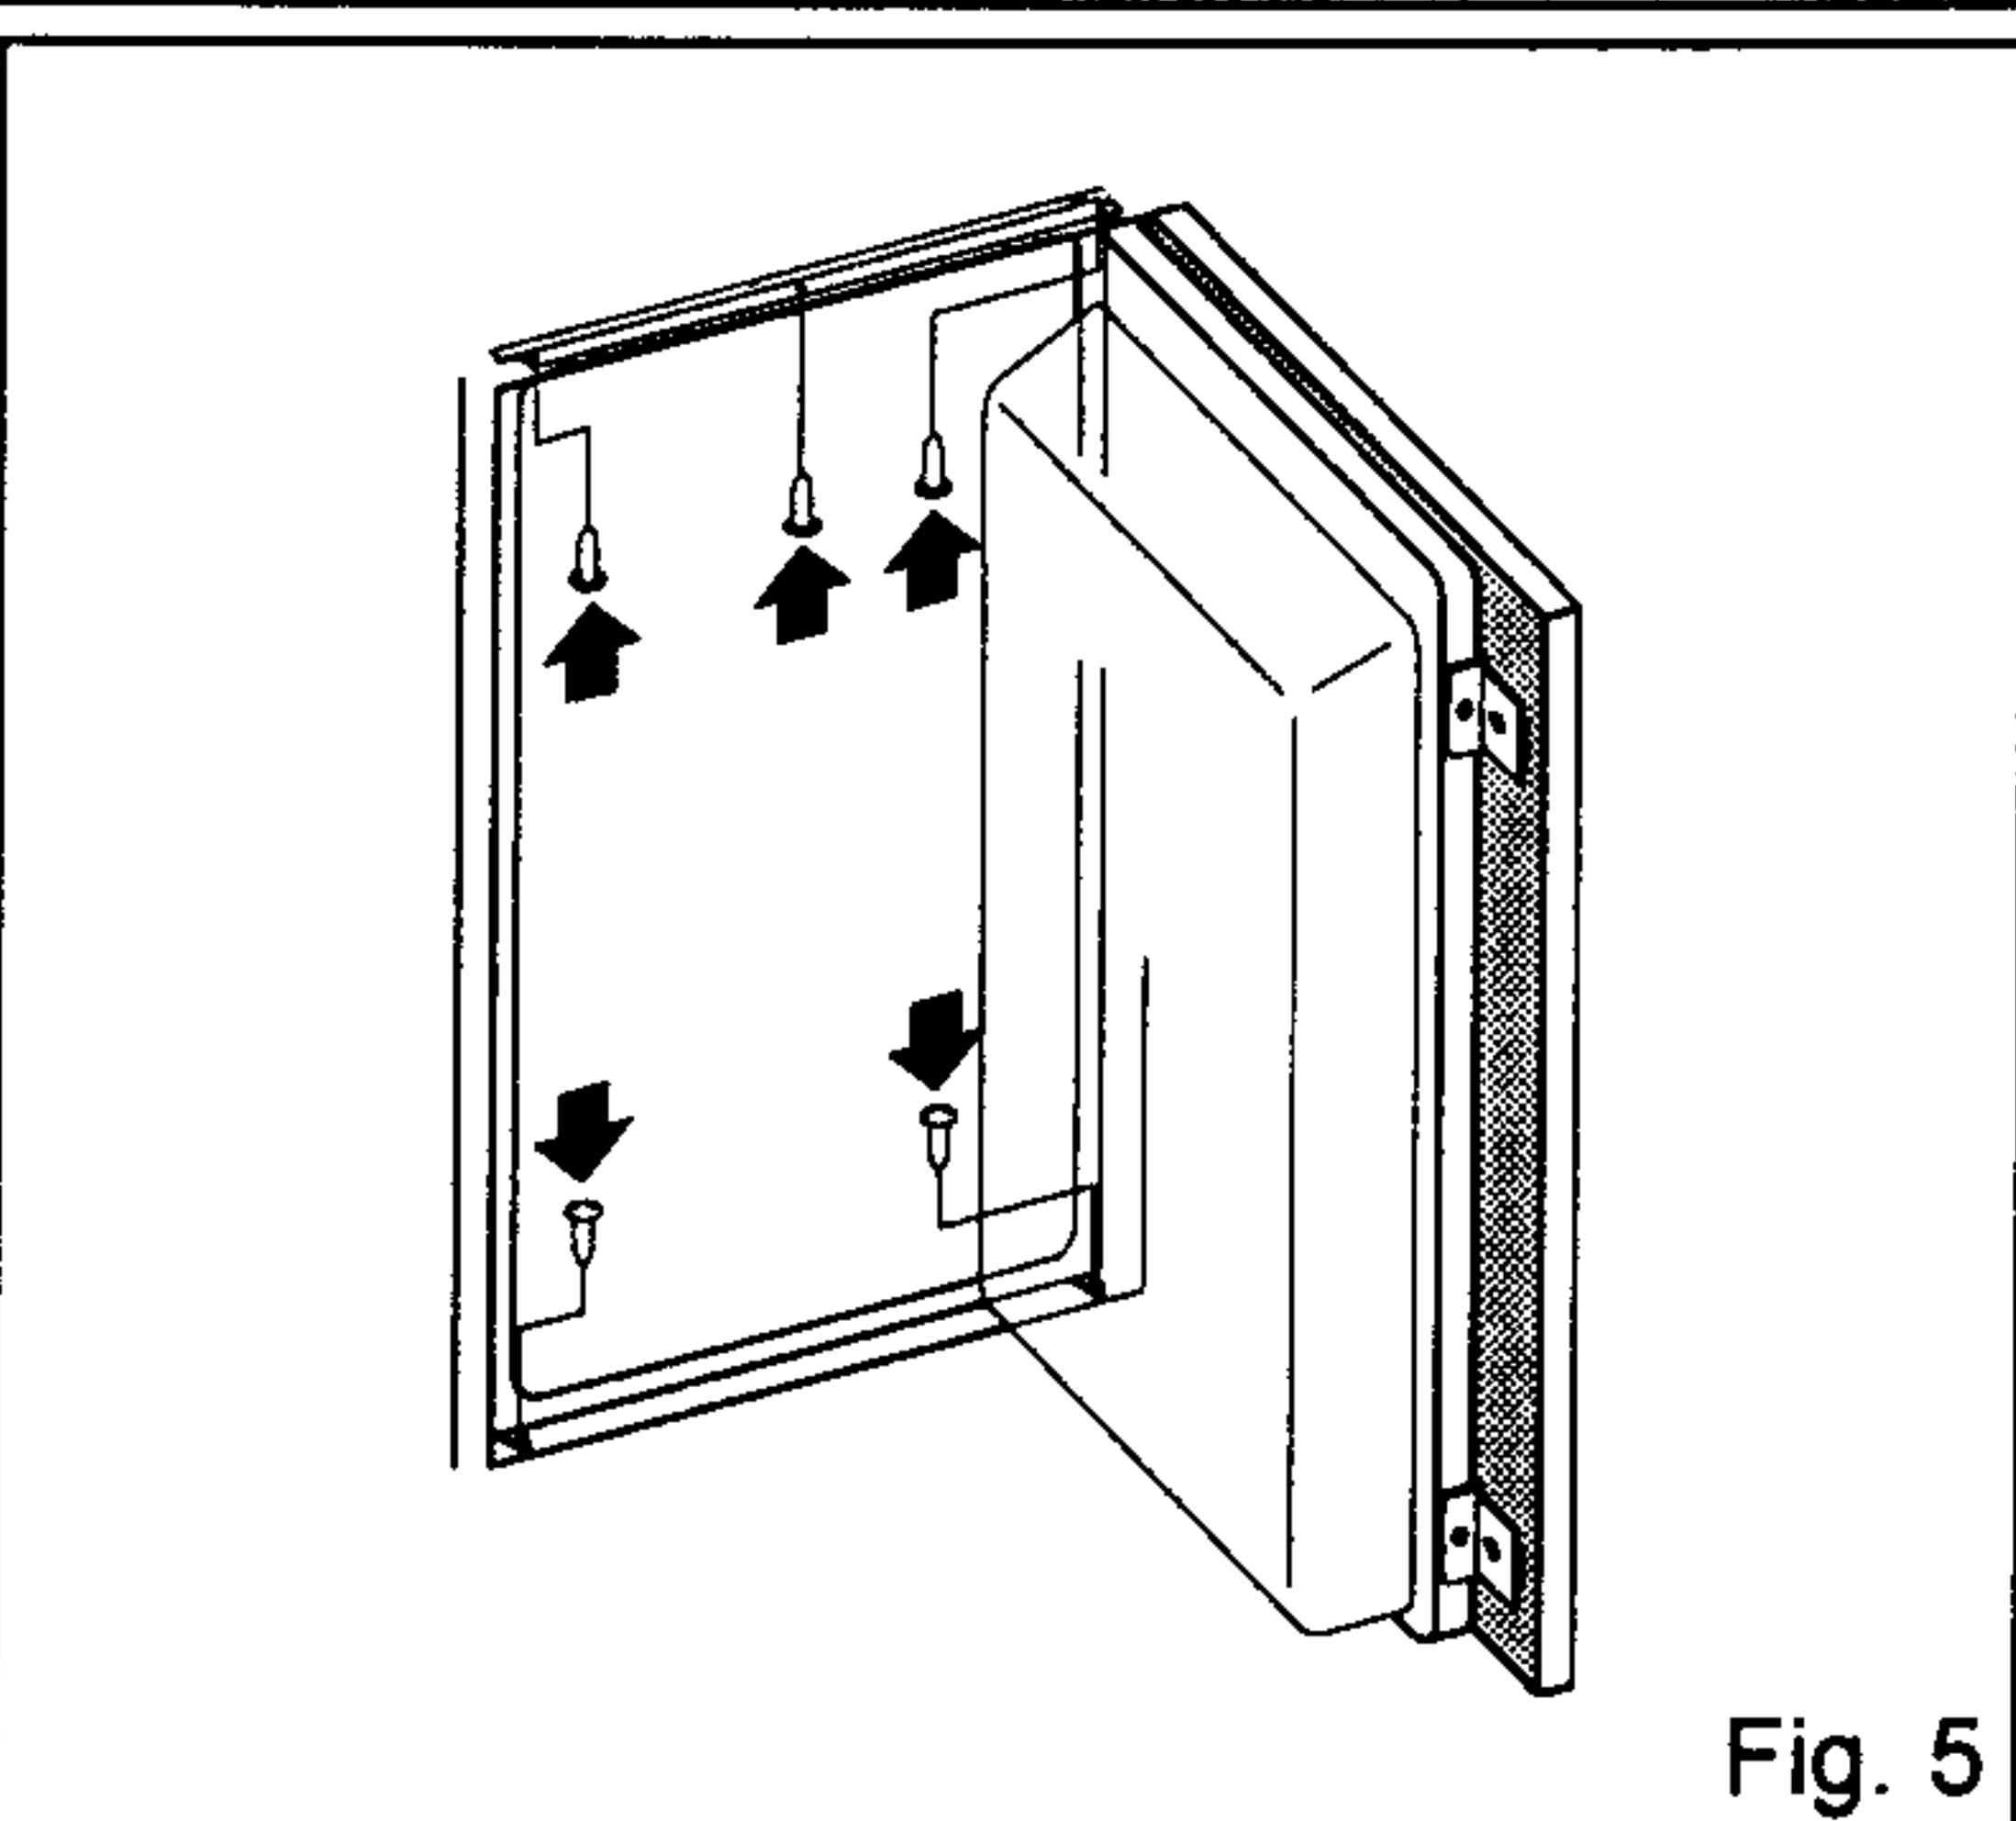

Fig. 5
- Fix the appliance into the kitchen unit. On the upper side, fix the three screws through the rail and on the lower side with two screws, through the lower hinges. Drill holes, ø 2,5 x 5 (Fig. 5).